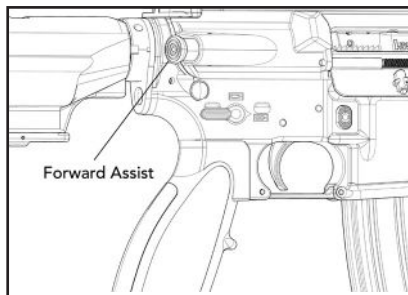

Fig. 32 – Tap Forward Assist
7. Tap the forward assist to ensure the bolt is fully forward and locked (Fig. 32).